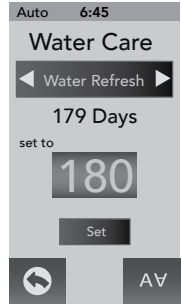
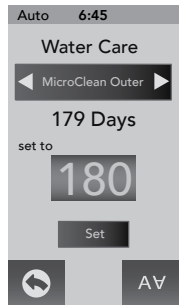

Figure 12.7d
Figure 12.7e
1. From the “Water Care” Menu you can to set the “Water Refresh” timer, Figure 12.7d.
A programmable filter timer can be set to remind you when to clean or replace the MicroClean Outer Filter. Tap  (Figure 12.7d) until you reach the “MicroClean Outer” tab to enter the Programming Menu (Figure 12.7e).
1. From the “Water Care” Menu you can to set the MicroClean Outer timer, Figure 12.7e.
A programmable filter timer can be set to remind you when to replace the MicroClean Inner Filter. Tap  (Figure 12.7e) until you reach the “MicroClean Inner” tab to enter the Programming Menu, Figure 12.7f.